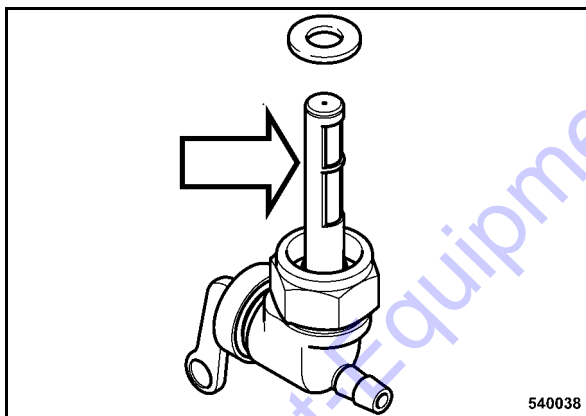

Fig. 56
- Unscrew the fuel valve (Fig. 56).